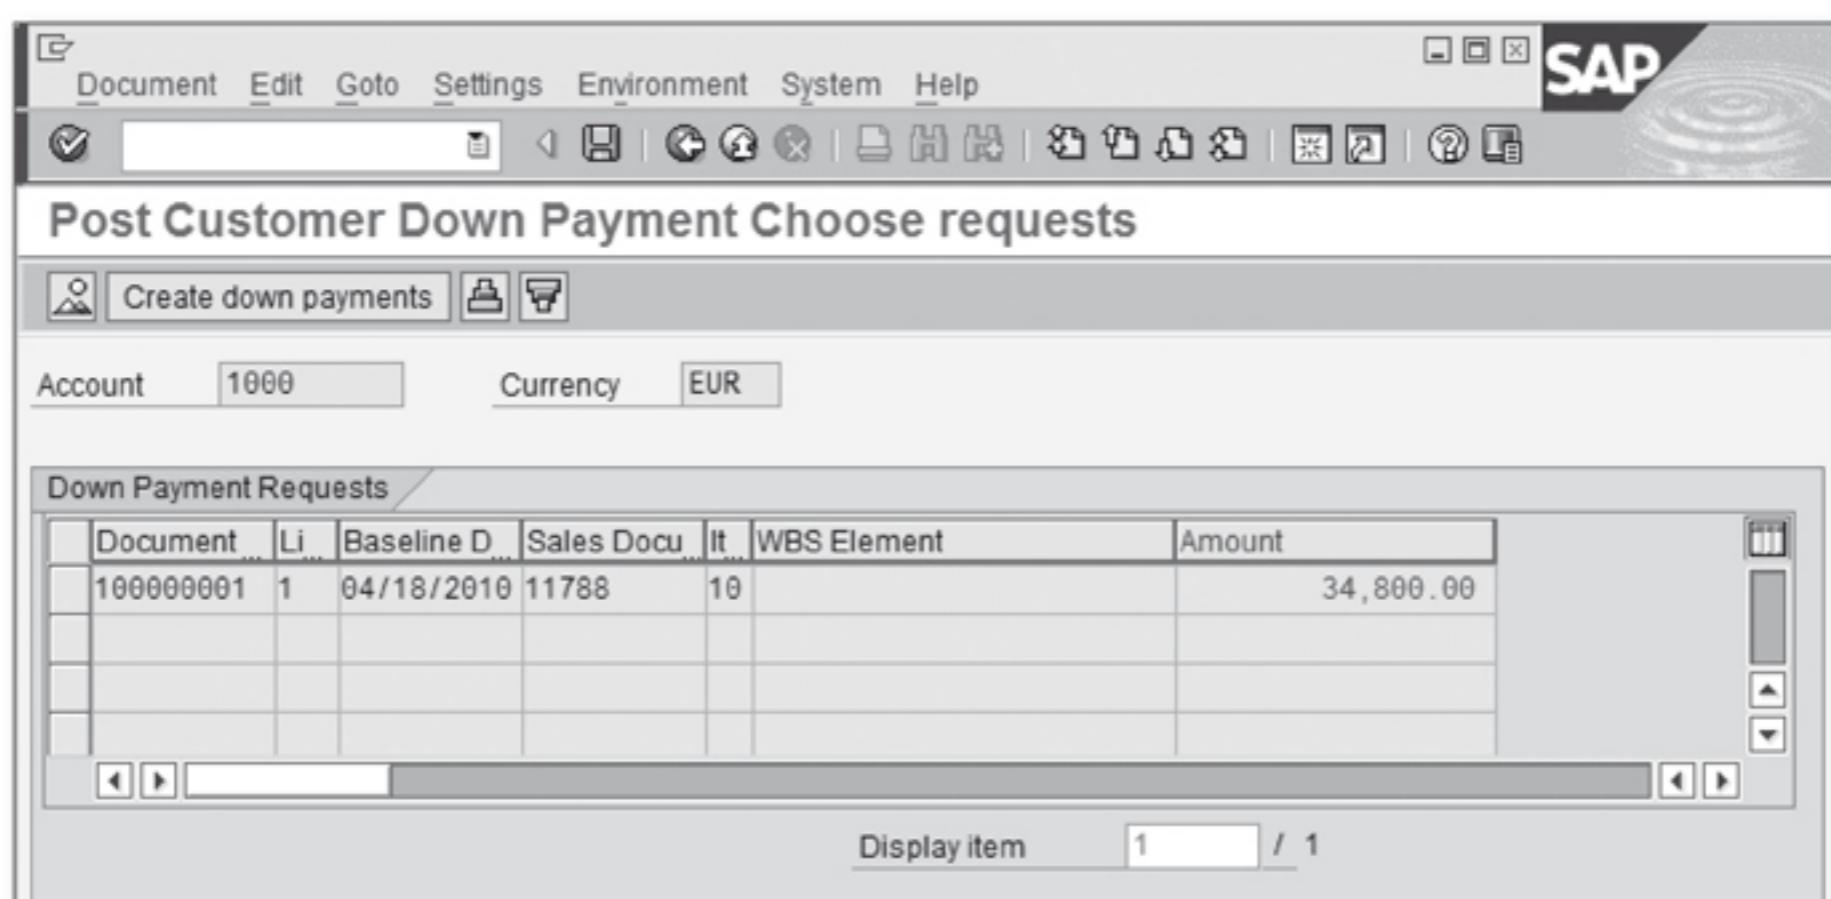

Figure 5.39 Down Payment Requests Selection List
8. The incoming payment is deducted from the special reconciliation account and entered in the standard reconciliation account. The down payments for clearing then appear as open items for the customer and reduce the receivables total (see Figure 5.39). In addition, the billing plan status is updated.